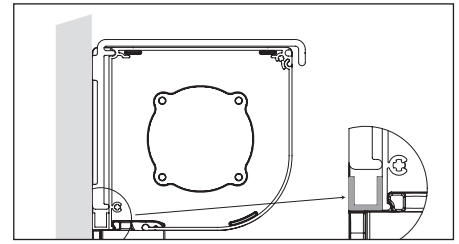

Fig. 33: U-profile width - horizontal
A. U-profile width - horizontal (fig. 33)